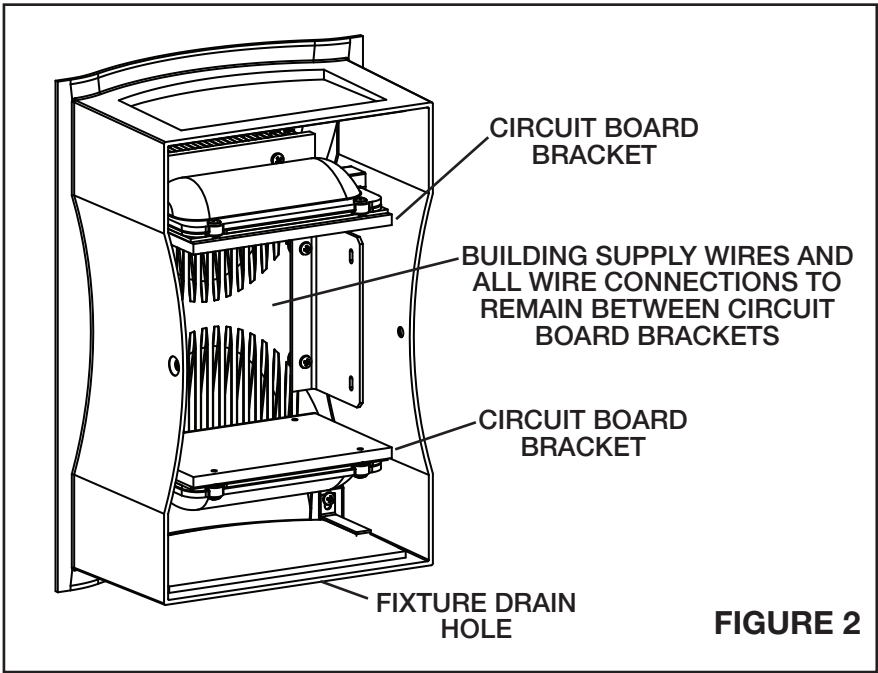

FIGURE 2
- 5) Make wire connections. Building supply wires and all connections must remain between the circuit board brackets as shown in figure 2. Reference chart below for correct connections and wire accordingly.
- 7) Install housing onto back plate. Care must be taken not to pull on or pinch LED supply wires. Secure using two #8 flat head screws provided. Note the fixture orientation label on the housing. Housing is to be orientated with the fixture drain hole on the bottom. See fig. 2.
- 7) Make wire connections. Building supply wires and all connections must remain between the circuit board brackets as shown in figure 2. Reference chart below for correct connections and wire accordingly.
- 9) Install housing onto back plate. Care must be taken not to pull on or pinch LED supply wires. Secure using two #8 flat head screws provided. Note the fixture orientation label on the housing. Housing is to be orientated with the fixture drain hole on the bottom. See fig. 2.